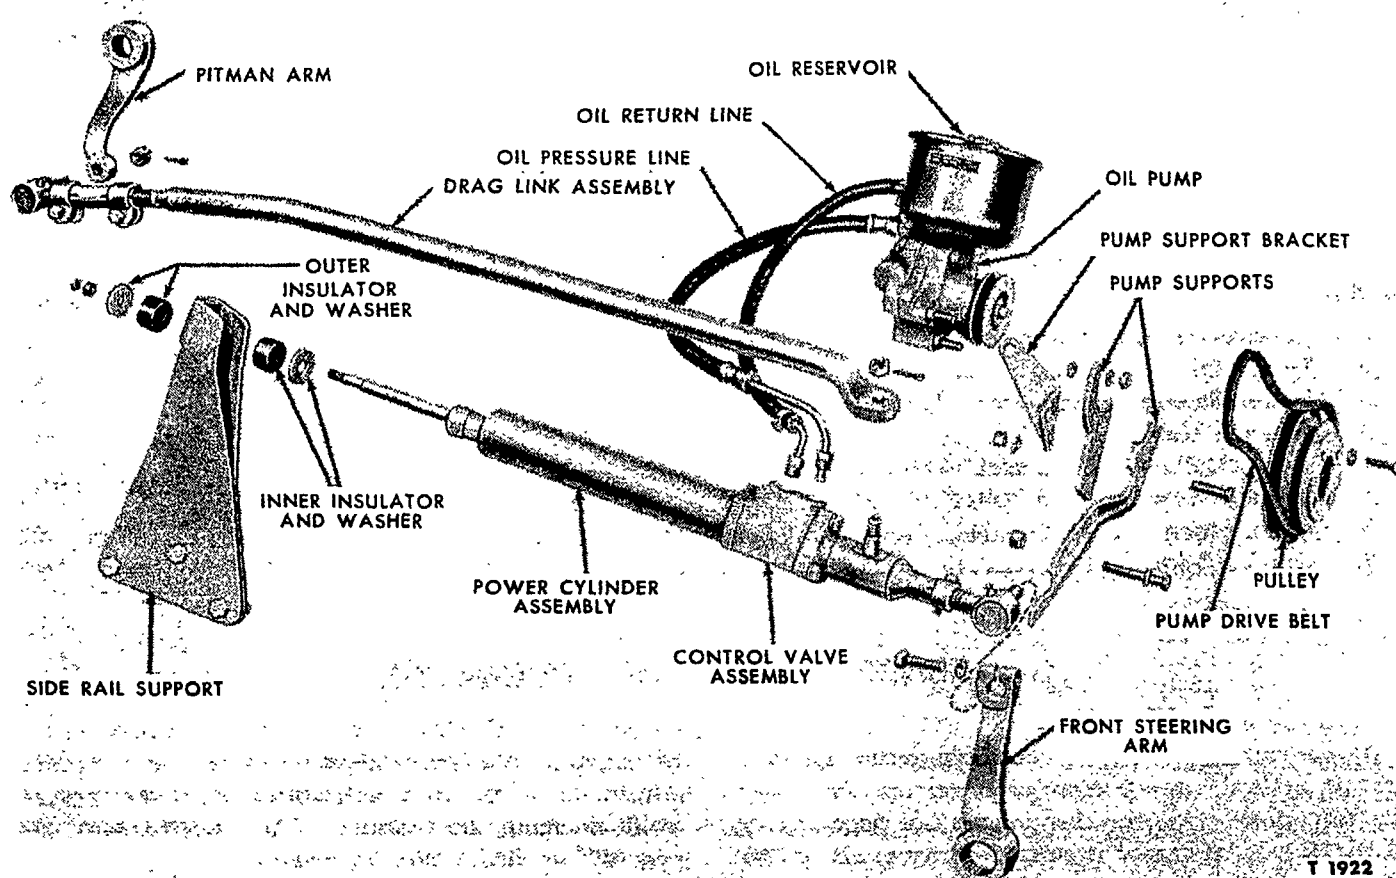
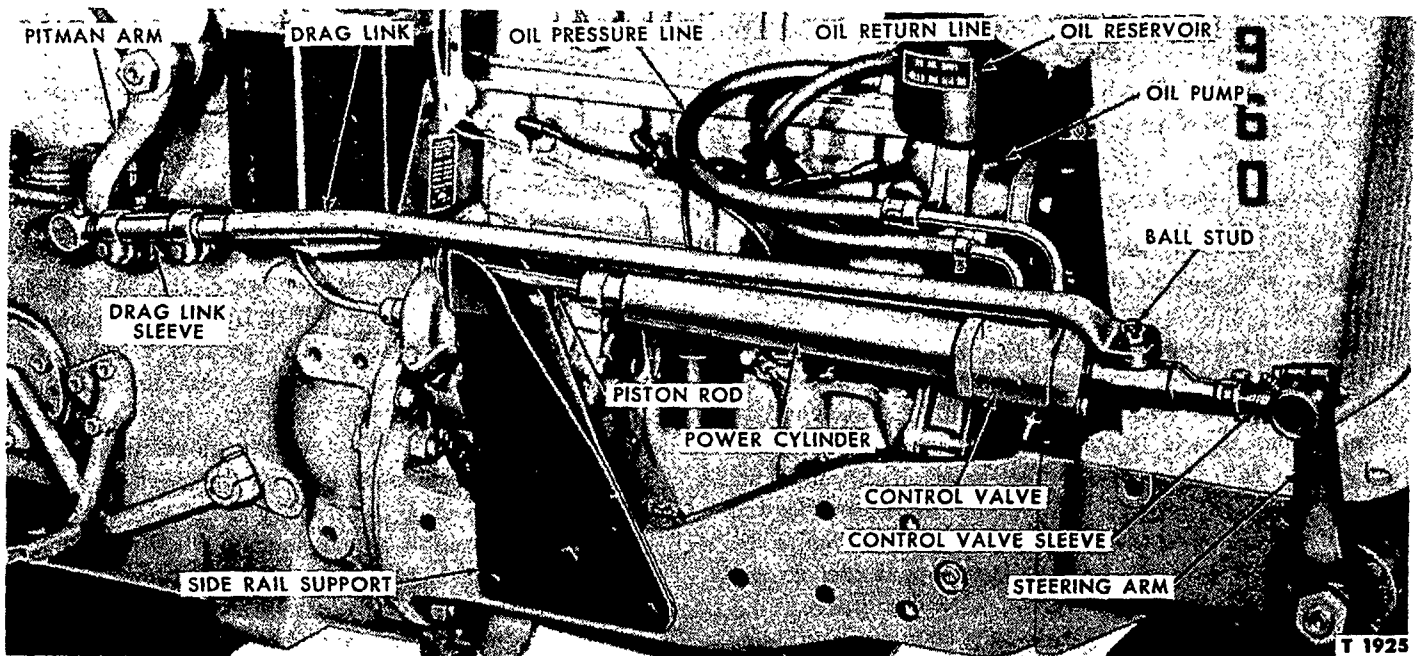

Figure 1—Components of Power Steering System
Figure 2—Installed View of Power Steering System Components
1. Place a drain pan under the rear of the cylinder and disconnect both hydraulic lines, Figure 1.
All units that affect the directional control of the tractor are components of the steering mechanism. These units are: the steering gear (including the steering column and steering wheel), the drag link, oil pump and reservoir, power cylinder and control valve, and the steering arm, Figure 1.
The drag link, Figure 1, consists of the drag link and the drag link adjusting sleeve. It is the steering linkage between the Pitman arm, attached to the steering gear, and the steering arm, Figure 2, connected to the front spindle assembly. "Row Crop" tractors have one drag link. It is mounted on the right side of the tractor. The drag link has no moving parts and requires little maintenance. Whenever it becomes necessary to change
Rotor-Type: Early model "Row Crop" tractors are equipped with a rotor-type pump and reservoir, mounted at the front right side of the engine, Figure 2. The pump is driven from the engine crankshaft by a single V-belt. Two elongated holes in the pump support bracket provide a means for adjusting the belt tension.
The power cylinder and control valve assembly is located at the right side of the tractor, Figure 2. The control valve sleeve, which is at the front end of the assembly, is threaded onto the drag link and attached to the front steering arm. The piston rod, which extends from the rear of the assembly, is attached to the pedestal side rail support, Figure 2. The power cylinder is double-walled. A lip-type oil seal, bushing, dust seal, and scraper, installed in the rod end of the cylinder, are held in place by a snap ring, Figure 25. The piston end of the cylinder is attached to the control valve housing.
1. Remove the drag link by removing the cotter pins and the castellated nuts which attach it to the Pitman arm (rear) and to the control valve sleeve and flange assembly (front), Figures 1 and 2.
2. Disconnect the pressure line and the return line hoses from the oil pump, Figure 1. Fasten the hoses in a raised position to prevent oil drainage.